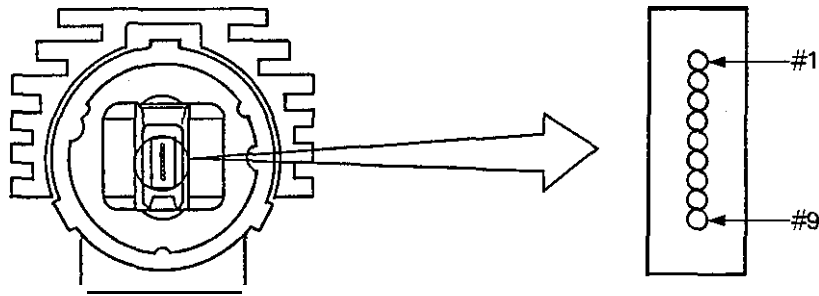

Figure 3-2 Arrangement of the head pins
3.2.1 Printhead mechanism and operation (See Figure 3-2.)